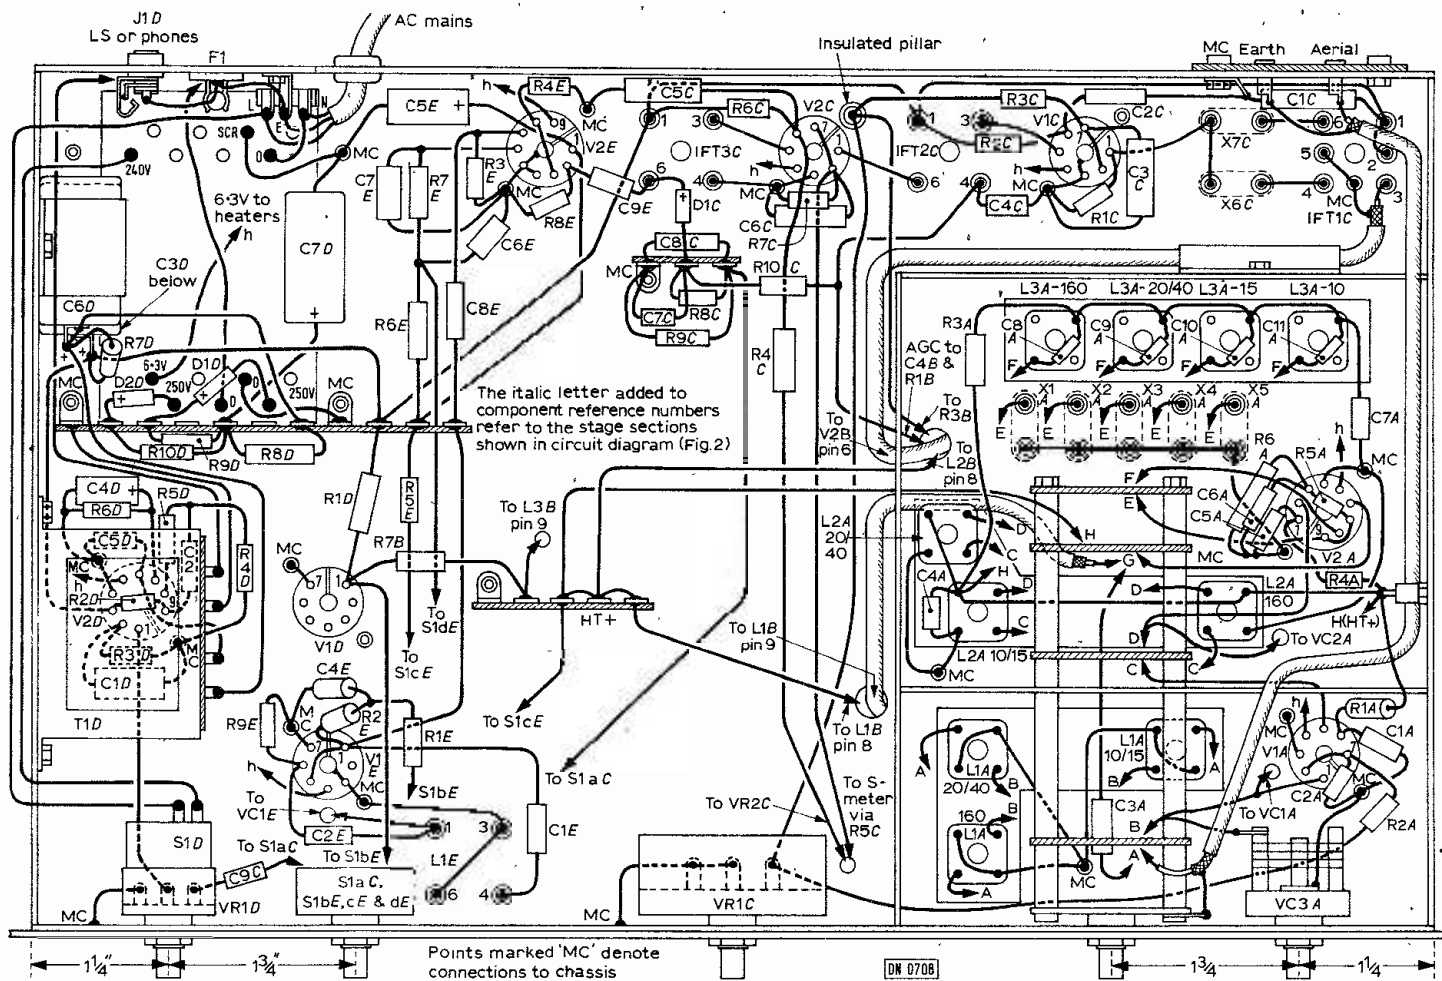

Fig. 5: Location of components underneath the chassis. Note that the wiring of the ECL86 output stage should be completed before fitting the output transformer.
Fig. 5 shows the underside of the main chassis and where needed components can be identified by reference to the circuit diagrams.
Fig. 5 shows all wiring to the crystal filter and following i.f. stage. It is easy to check that this section operates, by temporarily taking D1 positive to pin 6 of the 2nd i.f.t., or by wiring the i.f. amplifier anode to pin 3 of the last i.f.t. The signal is taken by the screened lead to pin 3 of the i.f.t., either from the tunable i.f. described, or from a signal generator. The i.f.t.'s may then be aligned in the way described. The few extra connections etc, for the second i.f. amplifier can then be added, to complete
*This view of the chassis will be useful when wiring up the receiver from Fig. 5.*
The bandswitch is positioned as in Fig. 5, and arranged so that the 10/15m coil L1 can be placed as shown to allow short wiring to the wafers. A 5x2in. flanged universal chassis member is placed inside the chassis, and marked to agree with the switch bush hole. This hole is punched, and holes are drilled for the switch screwed rods. The rear wafers and spacers are taken off, and the switch re-assembled with the flanged member, which gives extra support and also provides a screen between r.f. and mixer sections. Holes are drilled in the flanged member in advance, so that a lead can run directly through from r.f. anode (pin 5) to section C, and so that the heater circuit can be wired. C3 (used to isolate h.t. on 80m) is near section A and a lead runs through to section G.